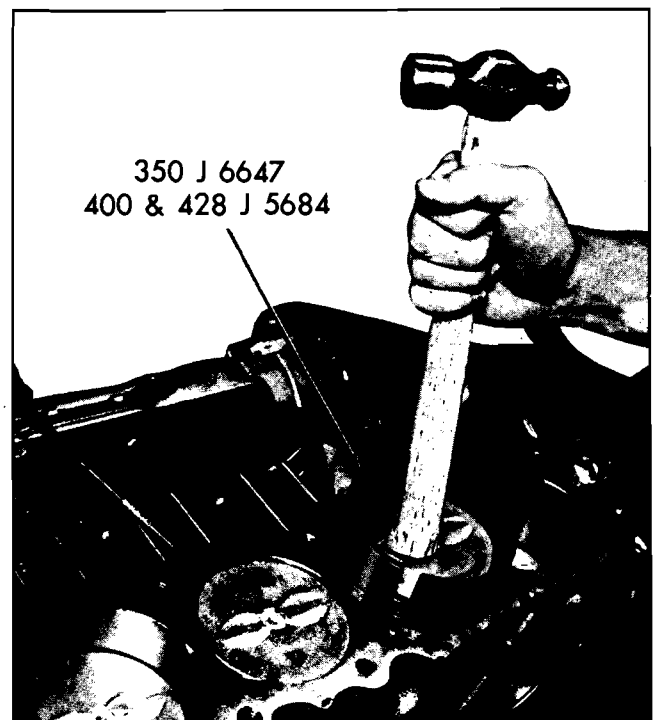
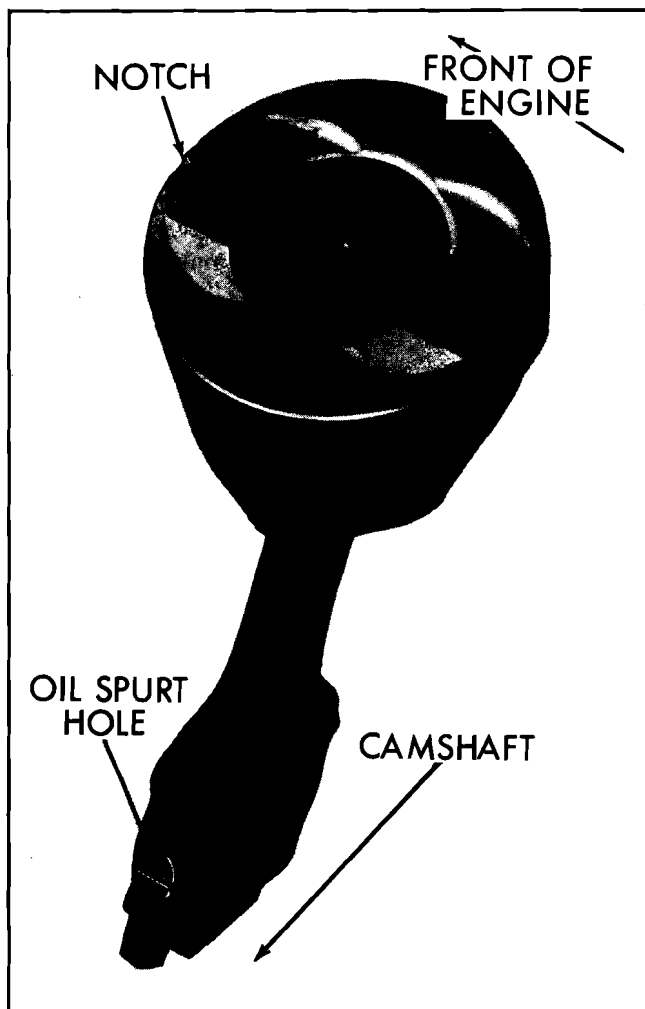

Fig. 6-115 Installing Piston Assembly
Fig. 6-122 Piston and Rod Assembly
2. Using J 8037 (Fig. 6-115) ring compressor, insert piston connecting rod assembly into cylinder so that notch in top of piston is toward front of engine. Be certain oil spurt hole (Fig. 6-122) in connecting rod is toward camshaft.
There is a notch cast in the top of all piston heads to facilitate proper installation. The piston assemblies should always be installed with notch toward front of engine. Position rod in piston so that oil squirt hole (Fig. 6-122) is toward camshaft.